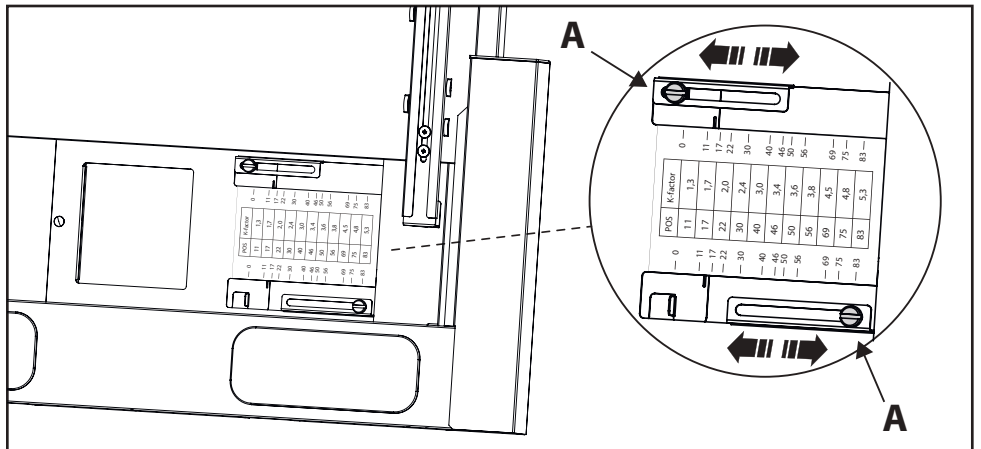

Fig.8
• Adjusting the damper for proper extraction (Fig.8):